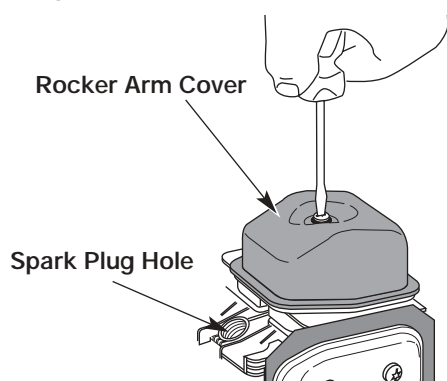

Fig. 70
7. Clean dirt from around the rocker arm cover. Remove the screw holding the rocker arm cover with a large flat blade screwdriver or Torx T-25 bit (Fig. 70). Remove the rocker arm cover and gasket.
- The piston is at the top of its travel while looking in the spark plug hole (Fig. 70)